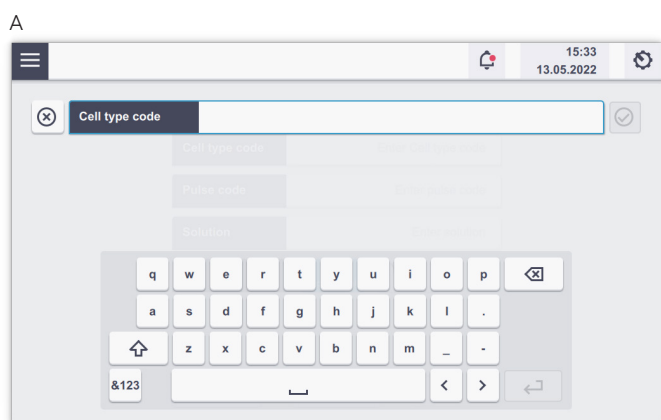

Figure 2.11: (A) Search for an experiment via name (B) Selection of a predefined experiment
1. After vessel type selection (see 2.8.2) a screen appears prompting you to enter an experiment name (Figure 2.11, A).
2. Selecting "Load" will open a list of experiments for the selected vessel type (Figure 2.11, B). The list comprises experiments pre-defined by Lonza (template files; blue) and all experiments saved by the user (black). Tapping on "Details" will provide information about name, vessel type and number of defined vessels. Choosing an experiment and tapping the "Load" button will open the experiment.